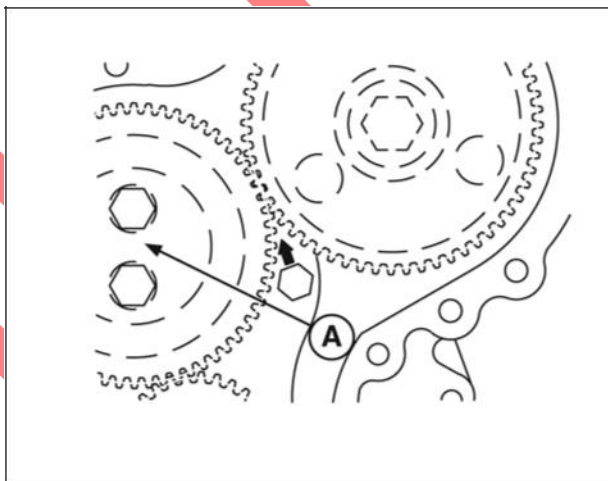

Figure 12
5. When reinstalling oil nozzle, oil hole must be positioned at a 45° angle, pointing towards the idler gear (A, Figure 12).